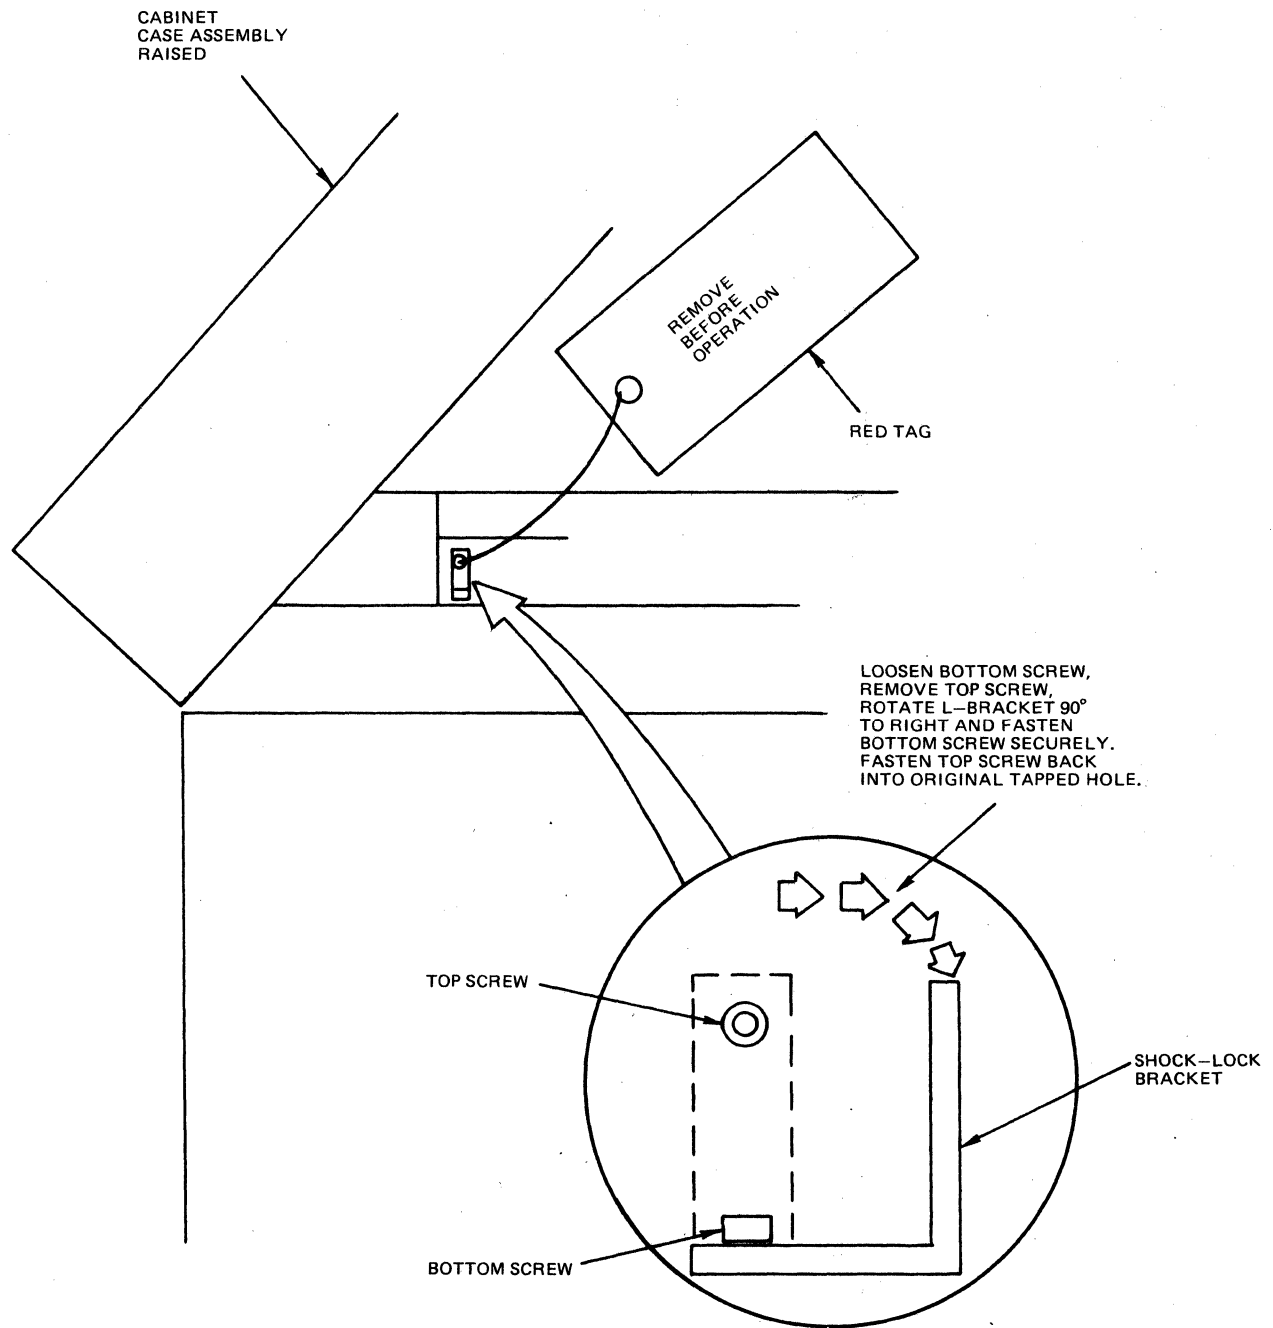

Figure 2-6 Removal of Shock-Lock Bracket
4. From right-hand side of cabinet, locate shock-lock bracket (red tag attached) near front of upper mass storage unit (see Figure 2-6). Loosen bottom screw and remove top screw. Pivot L-shaped shock-lock bracket 90 degrees to right and fasten bottom screw securely. Place top screw back into original tapped hole and fasten it securely. Discard red tag and string.
5. From right-hand side of cabinet, locate shock-lock bracket (red tag attached) near front lower mass storage unit (see Figure 2-6). Loosen bottom screw and remove top screw. Pivot L-shaped shock-lock bracket 90 degrees to right and fasten bottom screw securely. Place top screw back into original tapped hole and fasten it securely. Discard red tag and string.